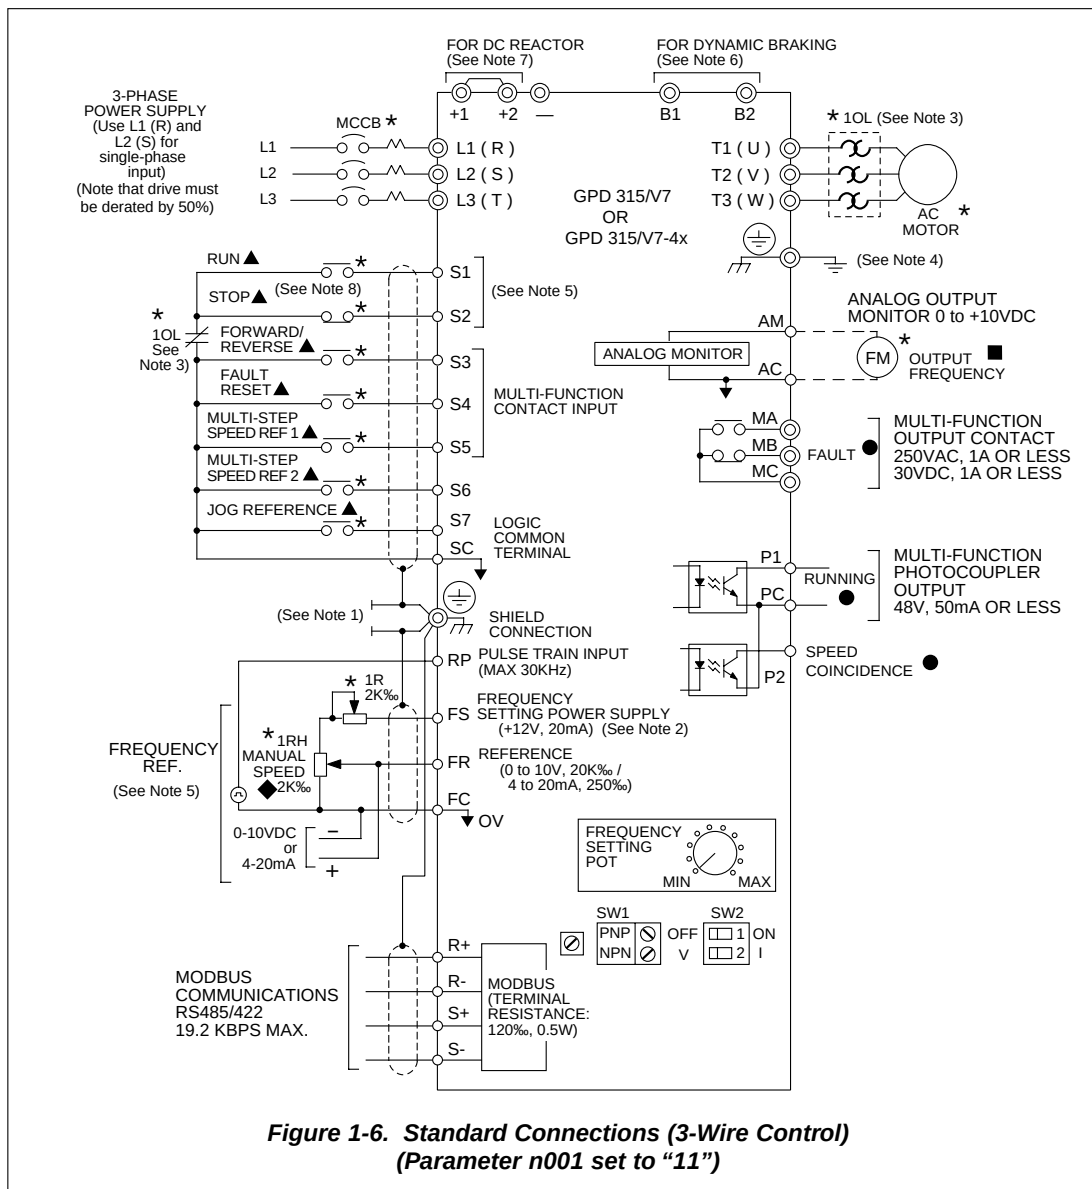

Figure 1-6. Standard Connections (3-Wire Control)
- These inputs have factory settings based on 2-wire reset. For 3-wire reset definitions, see Figure 1-6.
NOTES FOR FIGURE 1-6